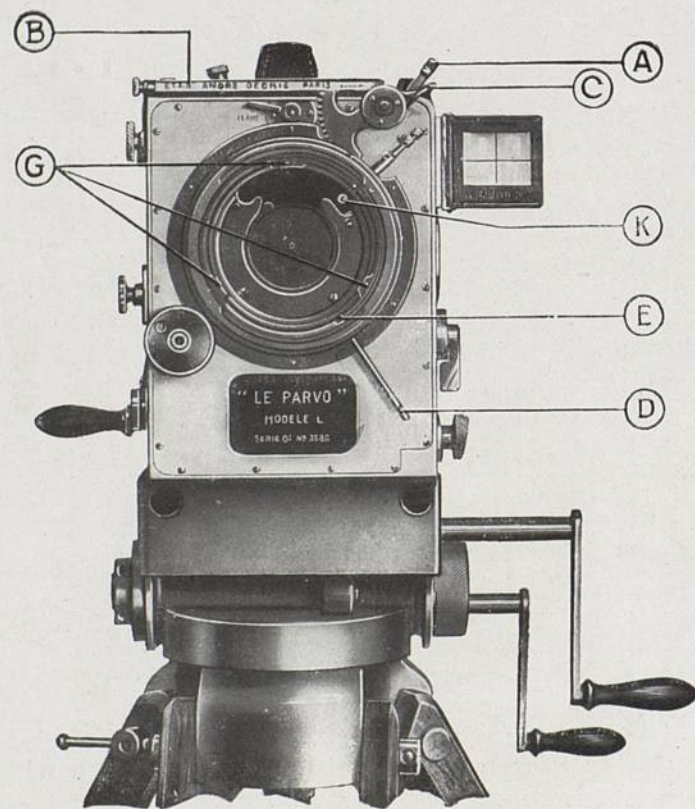

Figure 2
1. Focusing rod (*A*) is locked at the end of its travel (clear finder side) (see *Fig. 2*).
2. Tightening rod (*C*) is locked at the end of its travel (clear finder side) (see *Fig. 2*).
3. Diaphragm rod (*D*) is in its lowest position (see *Fig. 2*).